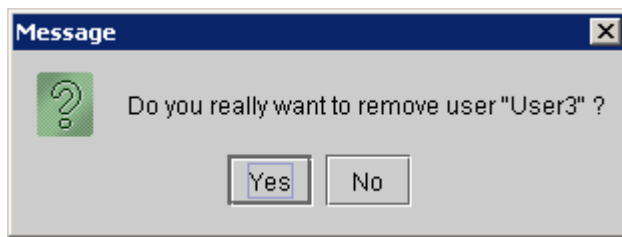

Figure 121 : Message for removing a user
- Click on button Remove, the following window is displayed (Figure 121):